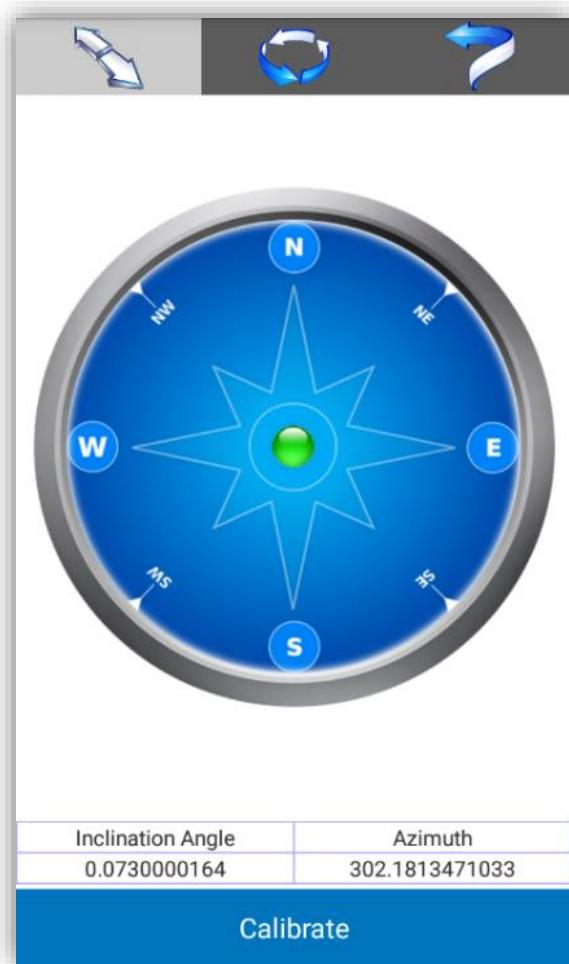
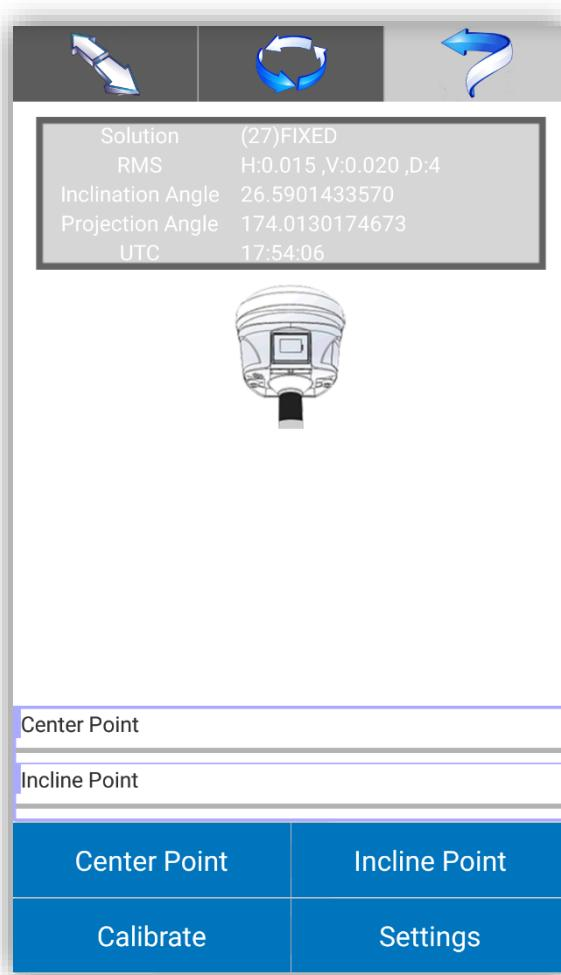

Figure 7.8
Figure 7.15
Click "Calibrate" and "Calibrate Sensor" to access the screen shown in Figure 7.8. There are four steps to improve sensor calibration and are described below.
① Click the first button at the top right of the electronic bubble calibration screen shown in Figure 7.8.
② After centering the bubble on the telescopic pole click "Calibrate". At the same time the electronic bubble in RTK and the bubble on the pole are both centered, so the bubble in the program will turn green (the bubble is red if not centered).
Click the second command at the top (Figure 7.8) to access the screen in Figure 7.9.
Click the third command at the top (Figure 7.8) to access the screen in Figure 7.15.